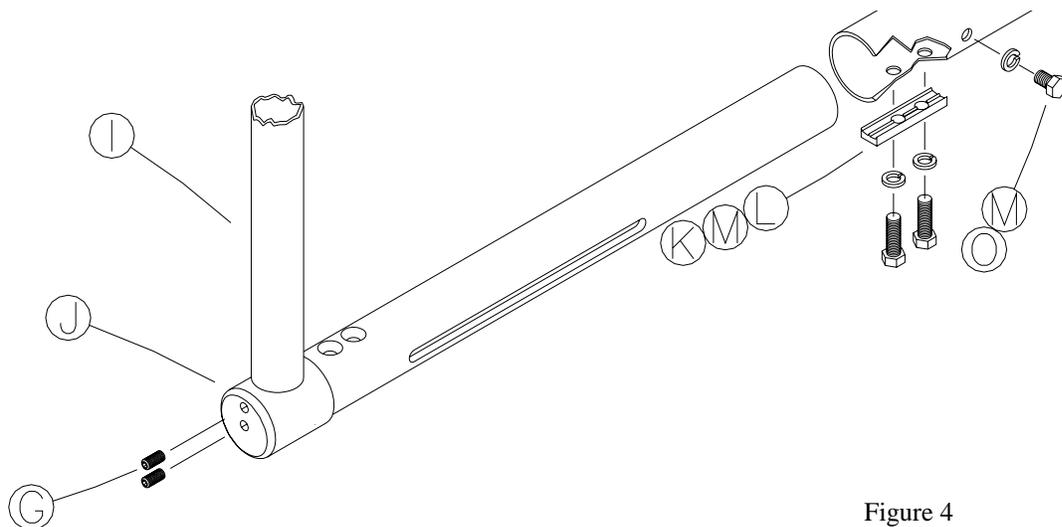

Figure 4
10. Confirm that the *Crossbar* (E) is perfectly centered on your pole and playing surface, make any necessary adjustments now. Also, check that the two holes on each end are facing the ground.
11. Install the *Uprights* (I) into the *Adjustable End Caps* (J) using the $1/2'' \times 1/2''$ *Set Screws* (G). Make sure that the uprights are seated into the bottom of the pocket provided, then tighten set screws using $1/4''$ *Allen Wrench* (F). See Figure 4.
13. Insert *Adjustable End Cap* (J) with *Upright* (I) attached into one end of *Crossbar* (E), leaving the top end of the upright resting on the ground. Make sure that the end cap is inserted completely into the *Crossbar* (E). Insert a pole or pipe that is at least $1\ 1/2''$ in diameter and $9\ 1/2'$ long into the bottom of the *Adjustable End Cap* (J) and rotate *Adjustable End Cap* (J) assembly around until uprights are positioned so you can see the threaded holes through the mounting holes in the *Crossbar* (E). Use the $5/8'' \times 1\ 1/2''$ *Hex Bolts* (L), $5/8''$ *Lock Washers* (M), and the *Crossbar Washer Plate* (K) to attach end cap assembly to the *Crossbar* (E), reinstall the $5/8'' \times 1''$ *Hex Bolts* (O), and $5/8''$ *Lock Washers* (M) in the back of the *Crossbar* (E) and tighten. This assembly process requires constant contact between the $1\ 1/2''$ pipe and the *Adjustable End Cap* (J), **DO NOT under any circumstances remove the $1\ 1/2''$ pipe until the $5/8'' \times 1\ 1/2''$ Hex Bolts (L) are installed.** In addition it is important to maintain full insertion of the *Adjustable End Cap* (J) to the *Crossbar* (E) during the rotation process. **DO NOT STAND DIRECTLY UNDER THE PLANE OF THE UPRIGHTS DURING ROTATION.** Repeat this process for the remaining upright assemblies. See Figures 4 & 5.